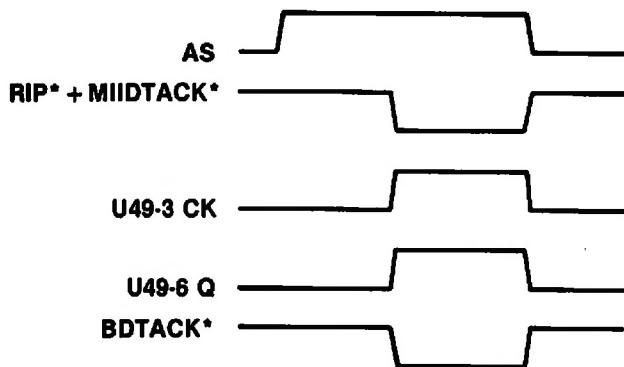

Figure 7-2. Onboard BDTACK Generation
Address Strobe (AS) sets the flip-flop and negates BDTACK* for the next bus cycle. Figure 7-2 shows the timing relationships for onboard BDTACK* generation.